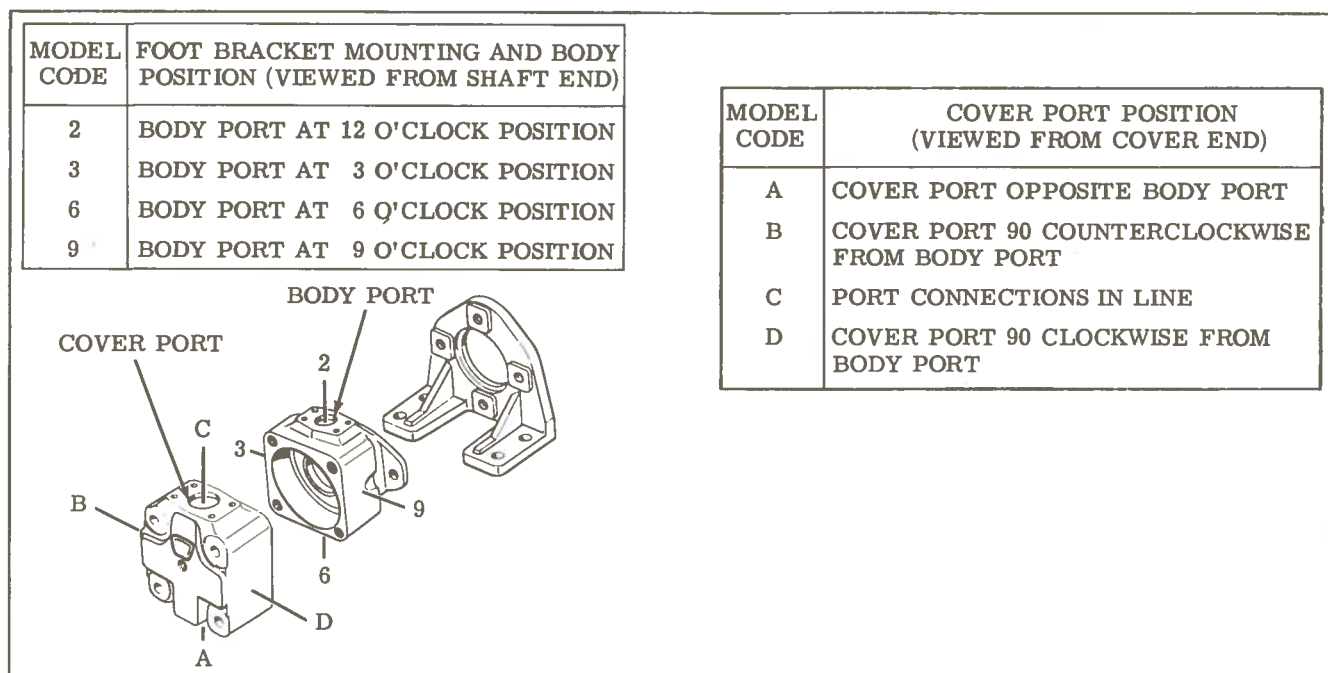
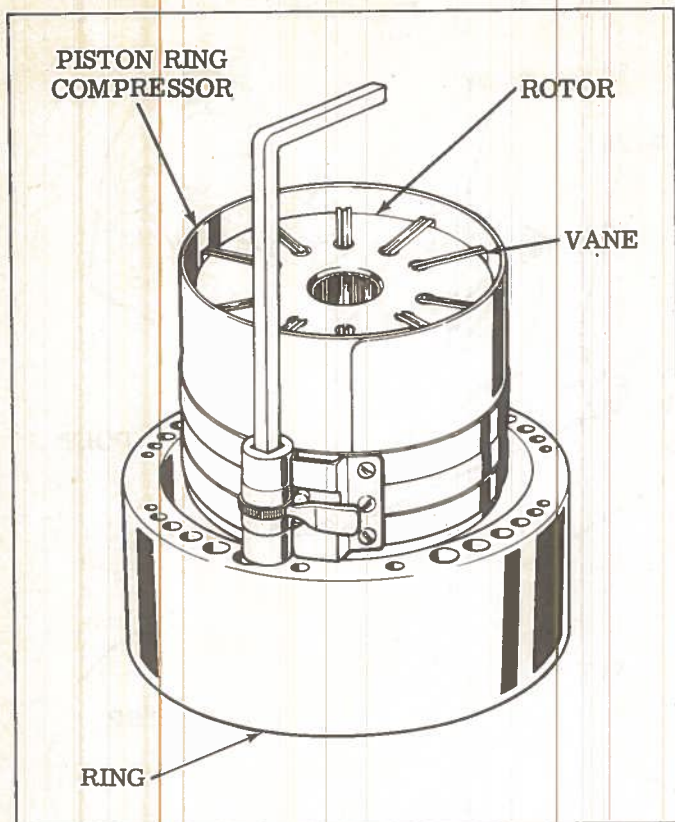

Figure 6
Figure 10
Covers can be assembled in four positions with respect to bodies, as shown in figure 6. To change the relative location of the ports, it is necessary only to remove the four cover bolts and rotate the cover to the desired position. Cover bolts must be tightened to the torque specified in figure 10 at reassembly.
Carefully pull the rotor and vane assembly halfway out of ring and install the ring compressor (see figure 10). Compress the vanes into the rotor and remove this assembly from ring. Release the ring compressor and disassemble components. Remove the "O" ring and back-up rings from the pressure plate and body.
3. Cartridge Assembly - With the rotor lying on a clean, flat surface, slide the vanes and springs into the rotor slots. Lift the vanes slightly to insure the springs are positioned in the spring recesses of the rotor. With a piston ring compressor of suitable size, compress the vanes in the slots so the vanes will clear the minor diameter of the ring. (See figure 10.)